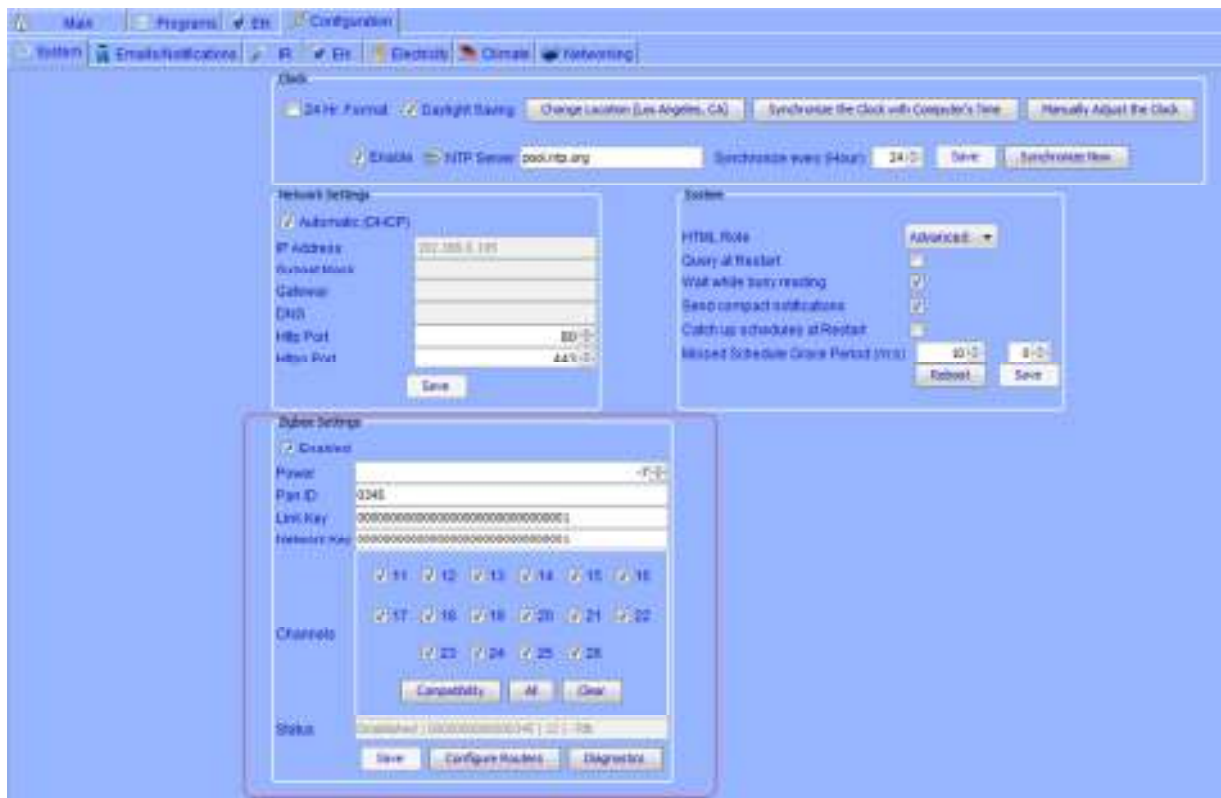

Figure 1. Setting up Zigbee Network
Setup Zigbee network as depicted in Figure 1 below.
**ATID[PANID]** ... see Figure 1
UDI EM3 should automatically find ISY as long as the Network and Link Keys are set to 1 (see Figure 1).